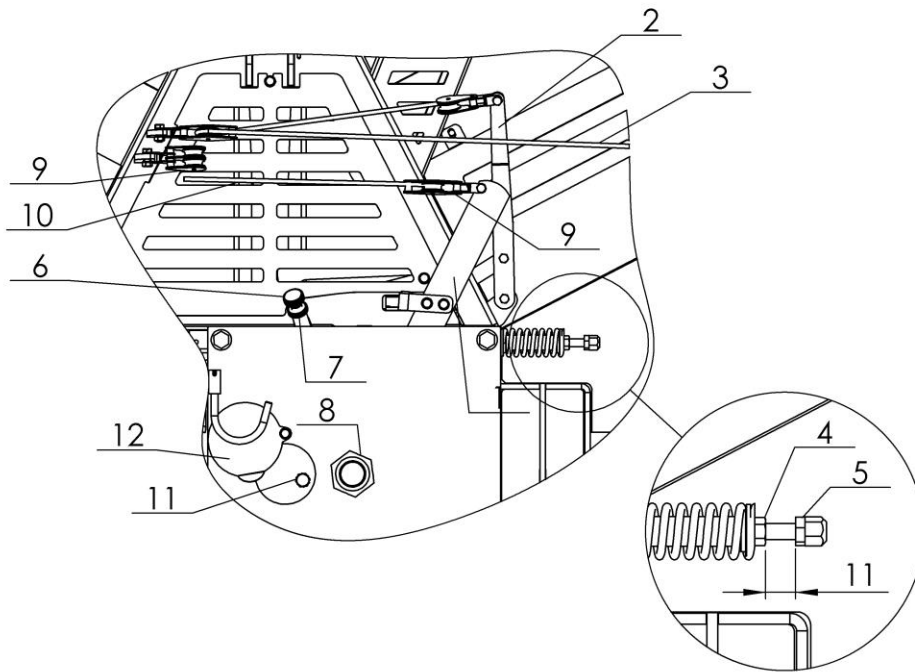
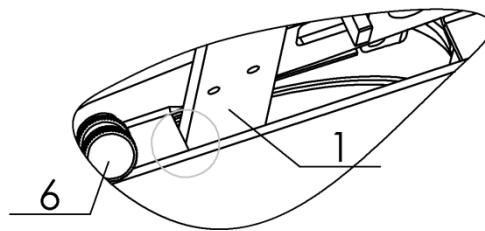

Figure 11
Figure 11a (lever rest)
Once the winch is properly connected to the tractor, you can start unreeling the wire rope. Pull the wooden lever on a red string (pos. 3, figure 11) and thus move lever 2 to the OFF position (figure 11). The brake is released and the wire rope can be unreeled. In case you have just installed the wire rope on the drum or you have noticed that the wire rope is not installed properly, you should unreel the entire wire rope and then reel it back tightly, as described in the beginning of this chapter.
Lower the winch on the ground so that the winch is supported by a hard surface. Engage the hand brake. Never start towing if a winch is not in a stable position on the ground. Before you pull the black string (pos. 10, figure 11), check that the string is installed properly between the small pulleys (pos. 9, figure 11). The lever (pos. 1, figure 11) should return to its original OFF position as soon as you stop pulling the string (pos. 10, figure 11).
Any interference with the activation mechanism which would prevent synchronous operation of clutch and brake is prohibited. It is also forbidden to pull the red brake string (pos. 3, figure 11) during the towing.
Install a dynamometer on the black string. In case you do not own a dynamometer, you can also use a spring balance with an appropriate weighing range. Once you have installed the dynamometer (spring balance), pull the string with a force of 350 N (35 kg) and check the position of the lever (pos. 1, figure 11). This lever can be seen in figure 11a. Use the nut on the main shaft (pos. 8, figure 11) to regulate the position of the lever (pos. 1), until the lever is not touching the backrest. In case you tightened the nut too hard (pos. 8, figure 11) and the lever moved away from the backrest, the necessary axial force on the friction surface of the clutch has been reduced too much. The winch will not be able to reach to necessary traction force and the friction surface of the clutch will be damaged due to sliding.
Use a screw (pos. 6) and a lock nut (pos. 7, figure 11) to set the safety brake. First loosen the lock nut and regulate the screw (pos. 6). By turning the screw clockwise, you increase the brake force and by turning the screw anti-clockwise, you decrease the brake force. Then tighten the lock nut which prevents the screw from becoming loose. A proper setting means that the wire rope will not unreel from the drum automatically or too easily. This can lead to wire rope damage when you release the brake and start unreeling the wire rope. The safety brake is set properly when the wire rope can be unreeld without too much effort. In case you are pulling the rope up a slope, it is possible to additionally relieve the brake so that the pulling of the rope is easier. But after you finish the work, the safety brake must be returned to its original position (as describe above).
The brake is set via a nut (pos. 5, figure 11). The brake lever (pos. 2) must be in the ON position (figure 10). First use a wrench key to loosen the nut (pos. 4), then to turn the nut (pos. 5) to the left in order to tighten the brake belt and vice versa. For optimal operation the gap between the nuts must be 11 mm. If the brake force is not sufficient, repeat the procedure and tighten the nut (pos. 5) to the left. If brake force is set too high, the unreeling of the rope is more difficult. In such cases, turn the nut to the right. At the end, tighten the nut (pos. 4).
First, remove the triangular protective net on the winch column. Then rotate the cover (pos. 12, figure 11) and rotate the drum in a position, which enables unscrewing of the bolt (pos. 11) on the drum. Insert the wire rope in the guide of the upper pulley and direct it through the upper pulley to the rope drum. Insert the rope in the groove and tighten the bolt (pos. 11, figure 11). Then start to wind according to the procedure, which applies to towing. Once the entire length of the wire rope is wound, unwind it again and wind it again strongly according to the procedure, which is described in the chapter "Wire rope unwinding" to prevent damage to the rope.